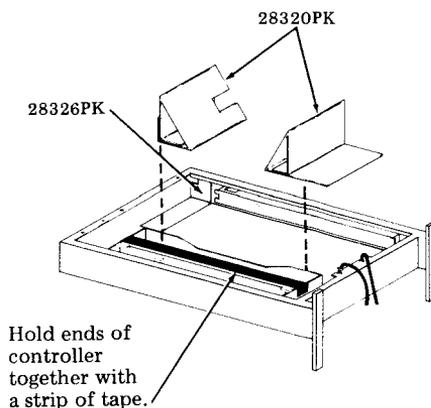

Fig. 10
4.09 Form two 28320PK corrugated details and tape so they hold their shape, if not already formed. See Fig. 10. Position the details between the controller and the power supply. Secure to the power supply and controller with tape.
4.10 Secure the ends of the controller together with a strip of tape. See Fig. 10.